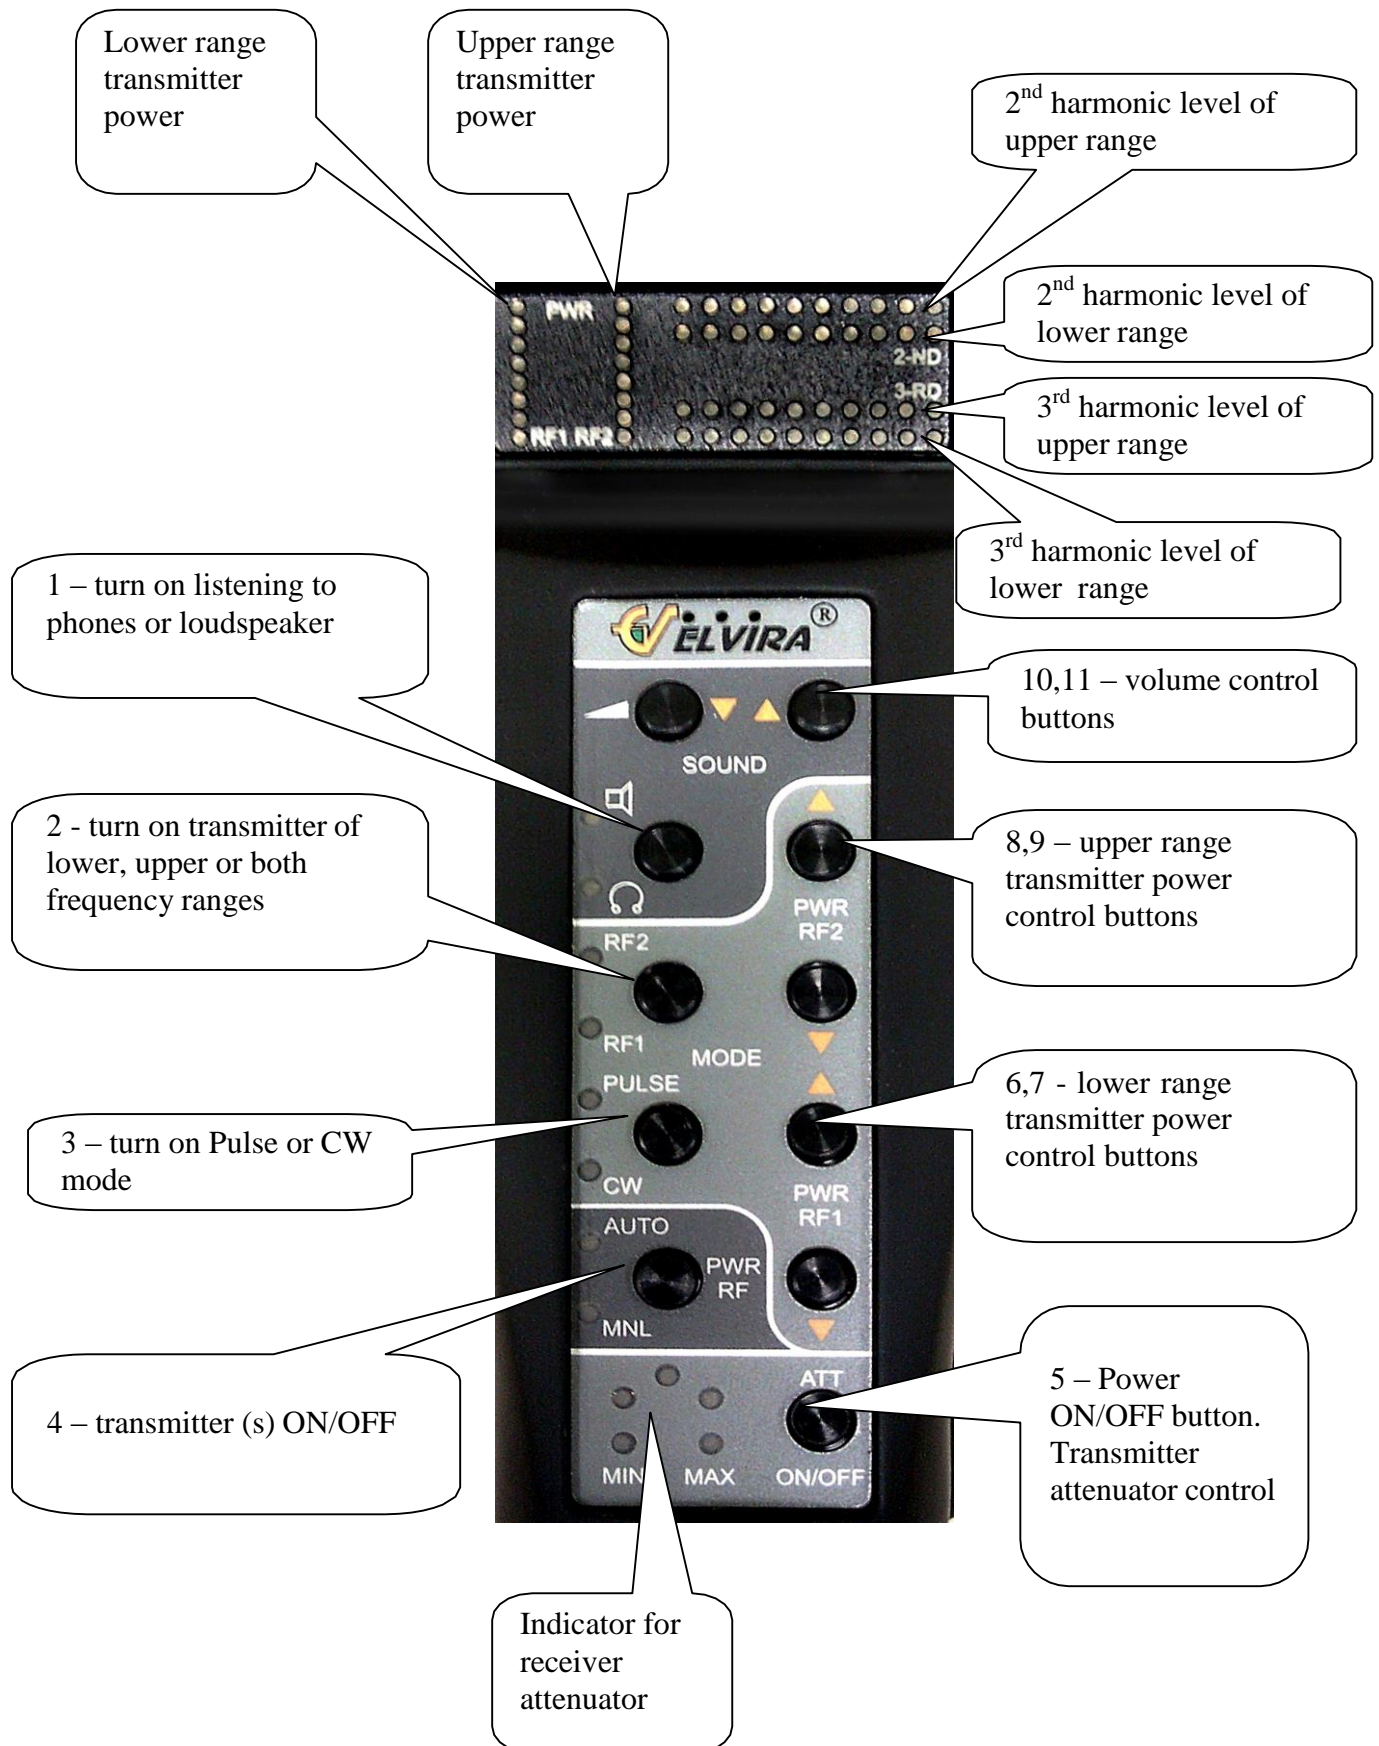

Fig.3
- Indication of the receiver power level and levels of the 2nd and 3rd harmonics of the signals received (Fig. 3).
4.2. The control panel is used to control operation of NLJD. It is placed on the arm into which a battery is embedded. Control board, buttons for operation modes control and display LEDs are placed in the housing. Control panel and its buttons functions are given in Fig.3.
6.2. Turn NLJD on by button 5 (Fig.3) on the control panel. Four indicators: RF1, RF2, PULSE and a loudspeaker LED will light up. One yellow LED should light on each scale of the probing signal power indicator. Here the probing signal transmitters are off. The 2nd and 3rd harmonics indicators should not light. If button 5 is pressed again and kept within 5 seconds, NLJD is off.
6.4. Before turning on probing signal transmitters RF1 and RF2 one can select one of the following operation modes: both transmitters are on or only one of them. For this purpose press button 2 (Fig.3) consequently. RF1, RF2 or both LEDs light at each pressing. An operator can control power of RF1 and RF2 probing signals pressing the corresponding buttons ▲ ▼ (more, less) (buttons 8,9 and 6,7 (Fig.3)). Here AUTO indicator goes out, and MNL indicator lights up.
6.7. If a response signal is to be listened via phones press the corresponding button 2 (Fig.3) and turn a receiving device on (cl.4.4).